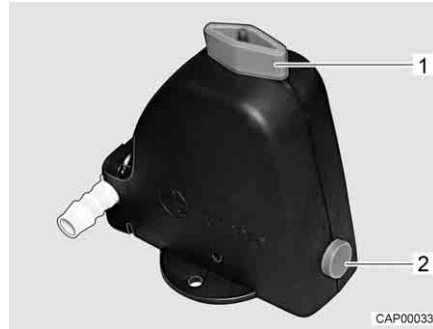

Fig. 246 Safety/drainage valve (Truma)
- Open the safety/drainage valve (Truma). To do this turn the knob (Fig. 246,1) parallel to the safety/drainage valve. The push button (Fig. 246,2) jumps out.